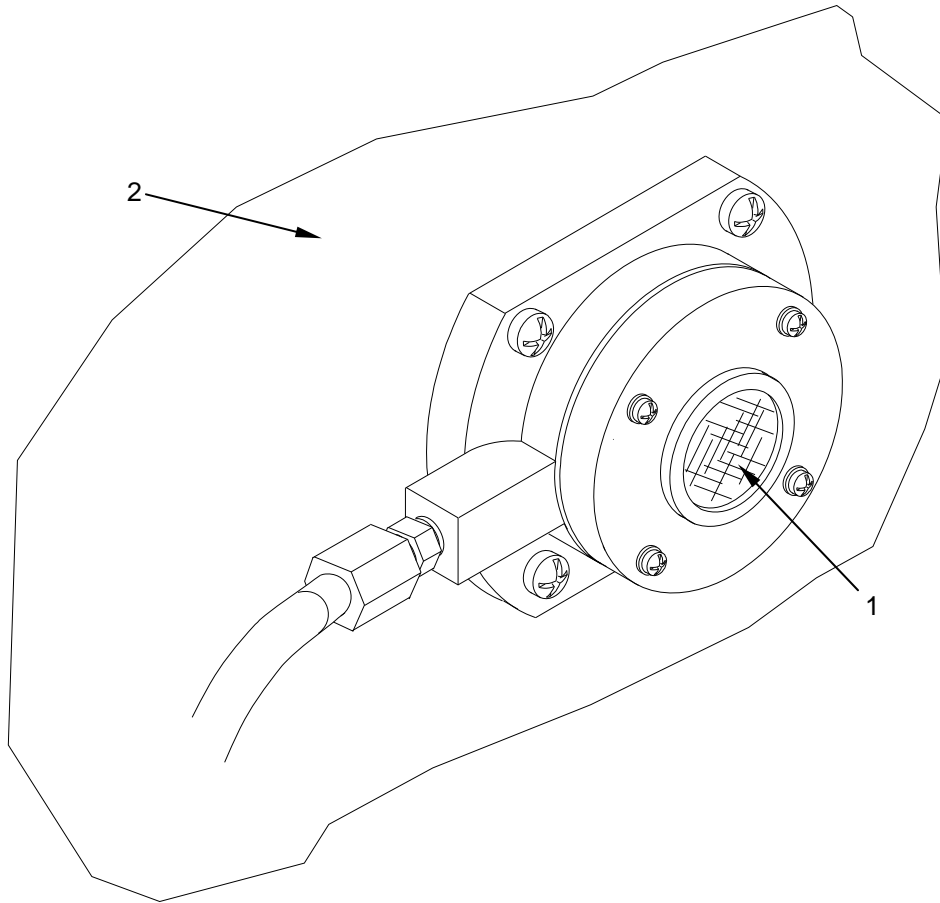

Figure 2. Clean the Fuel Regulator Assembly Air Vent.
1. Locate the regulator assembly air vent (Figure 2, Item 1) on the right side of the fuel tank (Figure 2, Item 2) just below and to the left of the fuel tank filler cap. The air vent is located on the top center of the assembly and is a gold colored metallic material.
2. Ensure that the vent (Figure 2, Item 1) is clean and unobstructed by using a small cleaning brush to gently remove any dirt or debris that might be found.